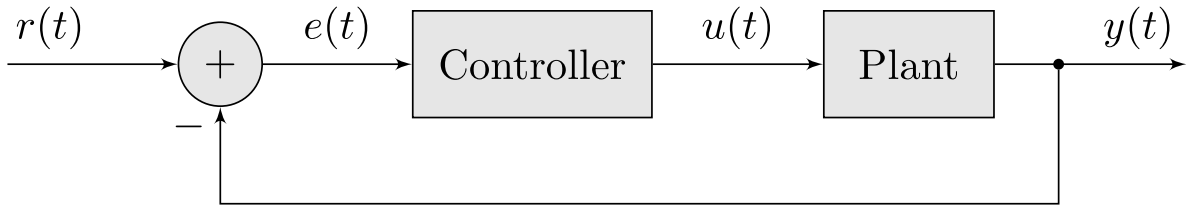

Figure 1: Block diagram of a closed-loop controller
**Figure 1** shows the block diagram of a general closed-loop or feedback control system. The output  $y(t)$  of the *plant* (the system being controlled) is subtracted from the reference  $r(t)$ , and this error  $e(t)$  is fed to the *controller*, which produces the control signal  $u(t)$  that is sent to the input of the plant, in an attempt to drive the error to zero.